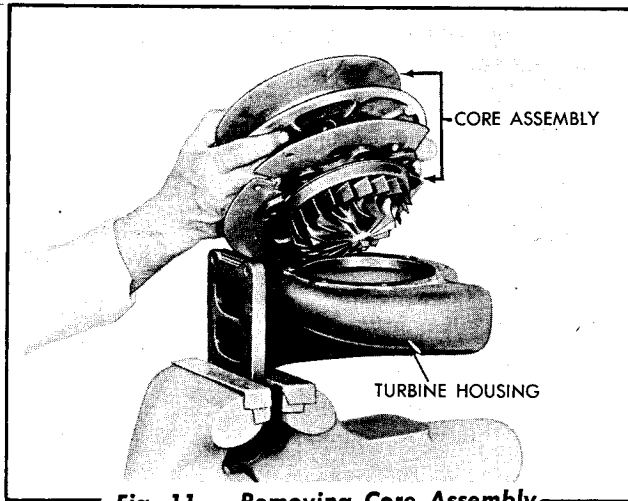

Fig. 11 - Removing Core Assembly
- b. Remove core assembly (Fig. 11). If tight, insert two screwdrivers on opposite side between the bearing housing and turbine housing and pry upwards uniformly. (Tilting the core may damage the turbine wheel).